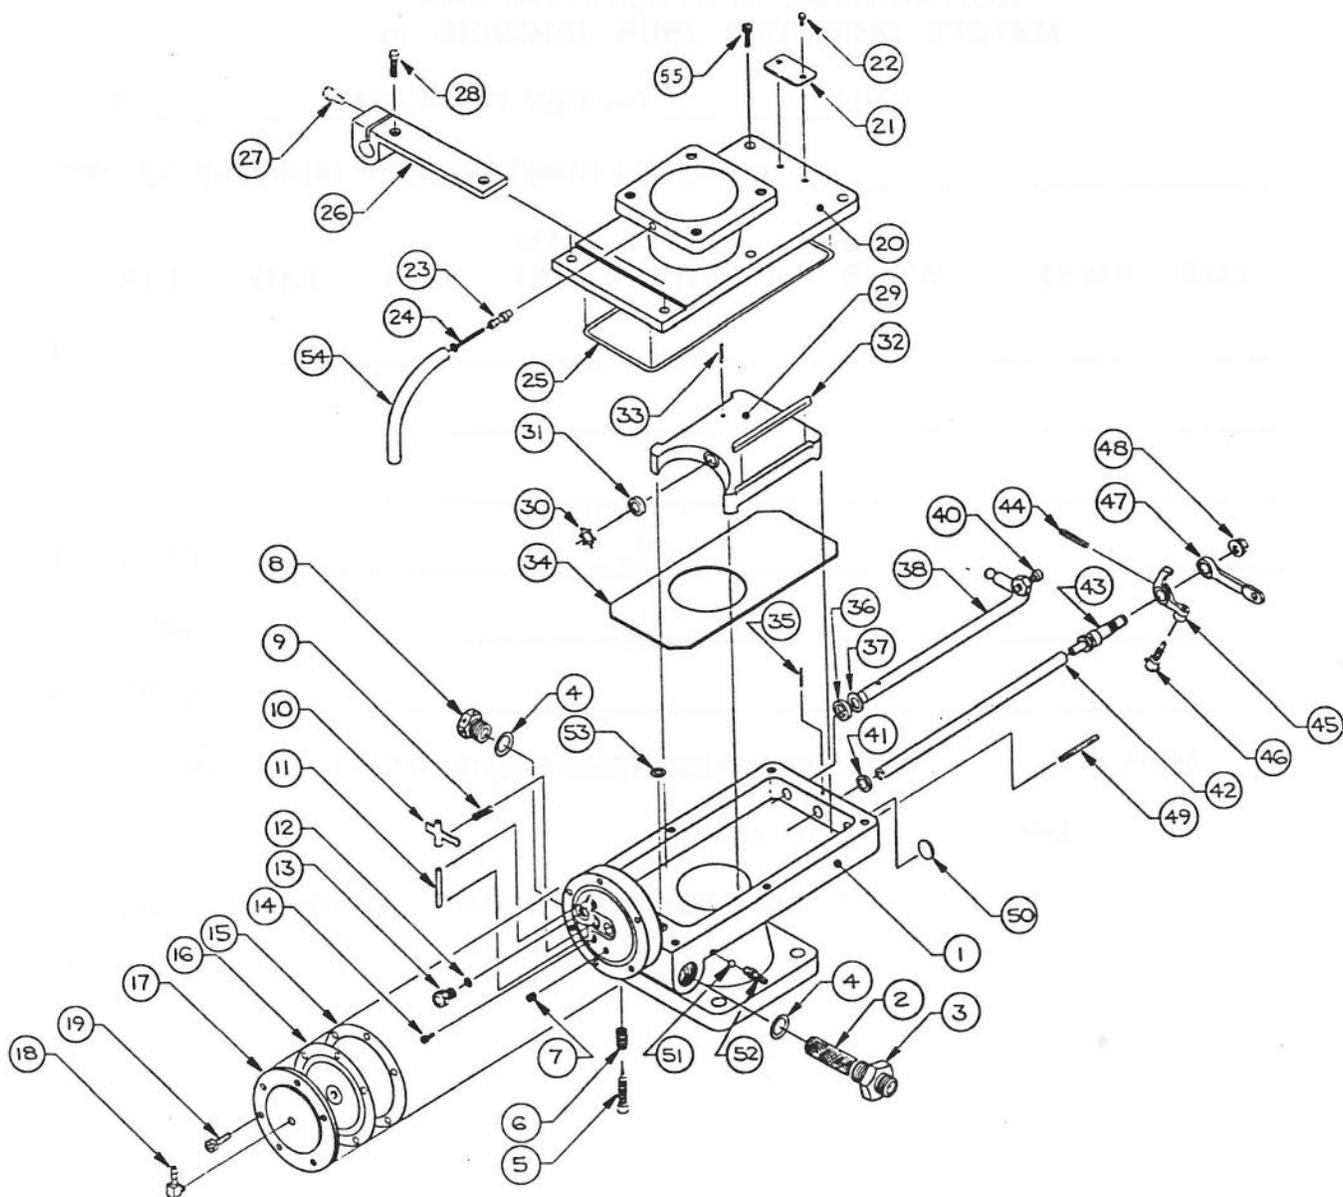

Fig. 6-0
- A. Fuel filter housing plug (Fig. 6-0, item # 8).
- B. Idle throttle set screw (Fig. 6-0, item # 40).
- D. Throttle cable clamp screws (Fig. 6-0, item # 27).
- F. Both ends of pressure reference tubing (Fig. 6-0, item # 54).